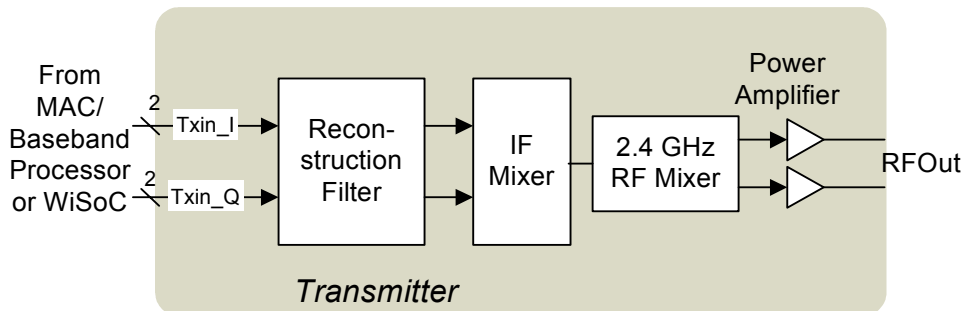

Figure 3-3. RF Transmitter Functional Block Diagram
3.2 Transmitter (TX) Block
The transmitter converts baseband I and Q inputs to 2.4 GHz RF outputs as shown in Figure 3-3. The inputs of the transmitter are current outputs of the DAC in the AR5212. These currents are low-pass filtered through on-chip reconstruction filter to remove spectral images and out-of-band quantization noise. The I and Q signals are converted to RF signals using an integrated up-conversion architecture. The intermediate frequency (IF) mixer converts the baseband signals to an intermediate frequency. The radio frequency (RF) mixer converts the IF signals into radio frequency